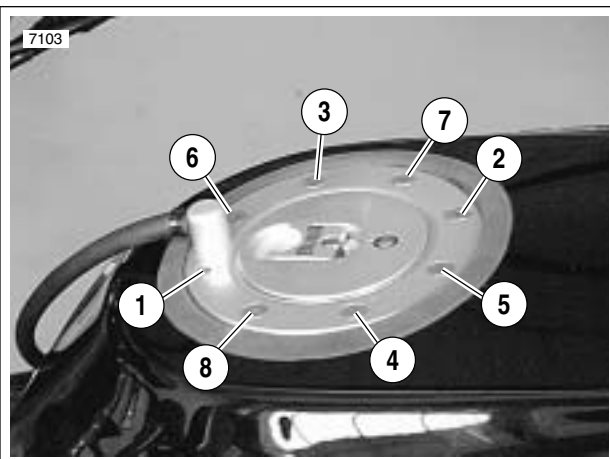

Figure 4-91. Tightening Sequence (Typical)
3. Remove screws (5) from fuel cap flange (9).
4. Remove fuel cap flange and fuel cap boot (6).
5. Detach vent valve fitting (10) and vent valve (8) from fuel cap flange.
- b. See Figure 4-91. Tighten screws to 16-18 in-lbs (1.8-2.0 Nm) in the order shown.